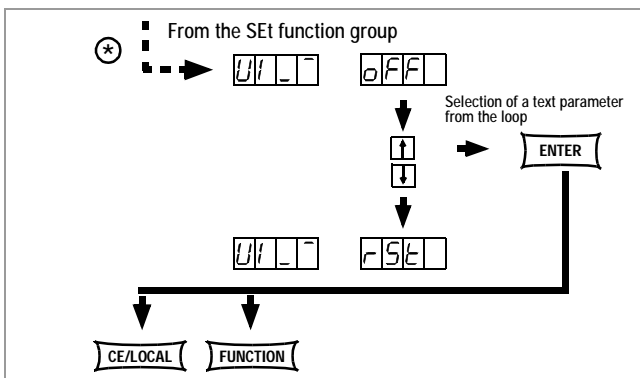

Figure 4.2.1.7 Path to **UI₋** Text Parameter Settings
- ☞ The **procedure** for setting **UI₋** is in principle identical to the procedure used for adjusting **Ulim** (see 4.2.1.1, figure 4.2.1.1).